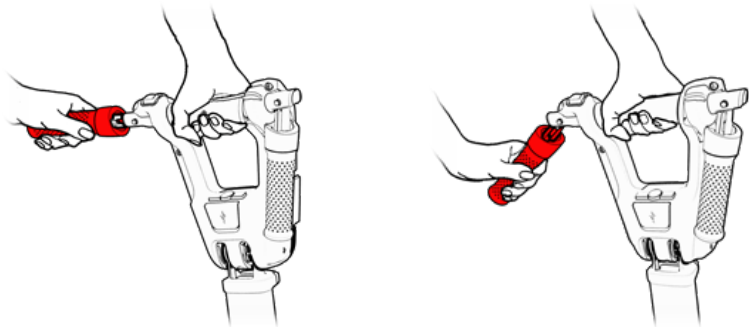

Figure 37
2. Fold down both sides of the handlebar (see Figure 37).